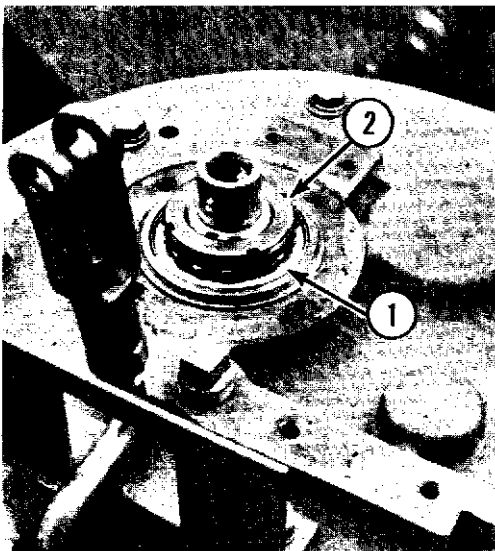

Fig. 11-29
- O. Install the lockwasher (1, Fig. 11-29) and lock-nut (2, Fig. 11-29). Tighten the locknut and lock the position with a tab on the lockwasher.